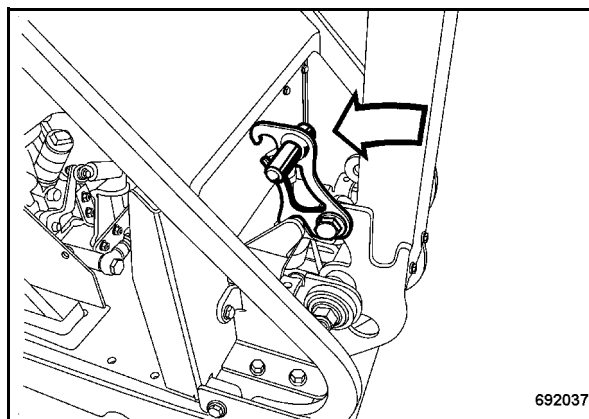

Fig. 35
- Adjust the steering rod upright and engage the locking lever (Fig. 35).